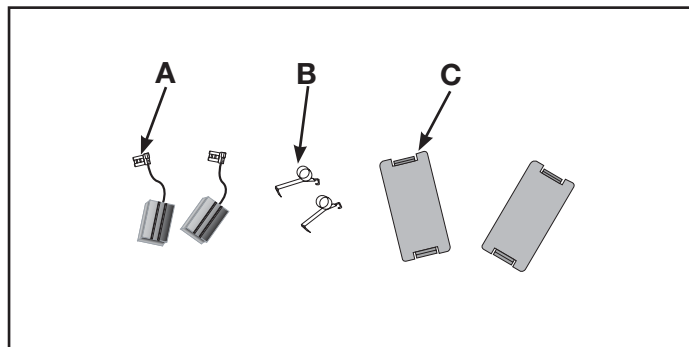

Figure 14
2. Verify the kit contents shown in Figure 14.
- A. Brush Assembly, 220 VDC (2)
- B. Spring Assembly (2)
- C. Cover, Brush access (2)